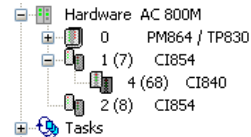

Figure 9. Redundant CI840 in HW-Tree
2. The icon changes to the redundancy icon and the text is updated with backup position within parenthesis (see Figure 9). The position for the backup unit will be calculated automatically (see also Slave Redundancy on page 28). The position of the backup module is given by the fixed offset of +64 to the position of the primary module.